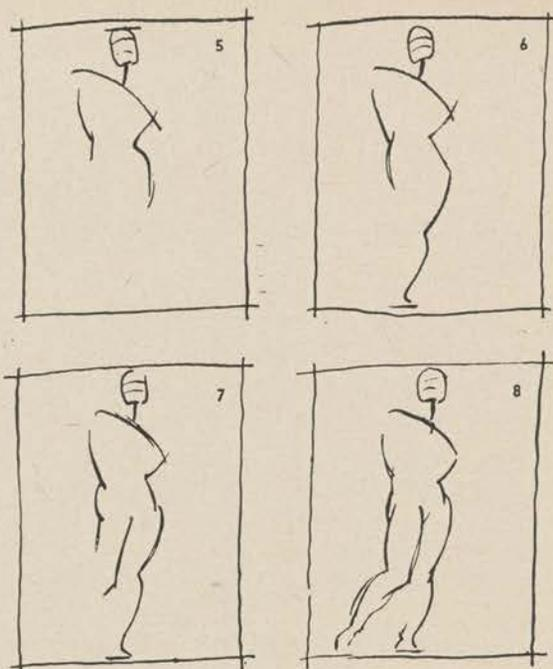

Figure 217.
in with straight lines the outline of the head. Turn it carefully on the neck, marking its center by drawing a line from the Adam's apple to the pit between the collarbones (2). Draw a line through this point to establish the slant of the shoulders (3). Indicate the direction of the body by outlining to the hip and thigh, at its outermost point, the side that carries the weight (4) (fig. 217). Follow this by outlining the opposite inactive side of the body (5). You can get the correct width by comparing it with the size of the head. Then, crossing again to the action side of the figure, drop a line to the foot (6). You now have determined the balance of the figure. Carry the line of the inert side to the knee, over and upward to the middle of the figure (7). On the outer side, drop a line to the other foot (8).